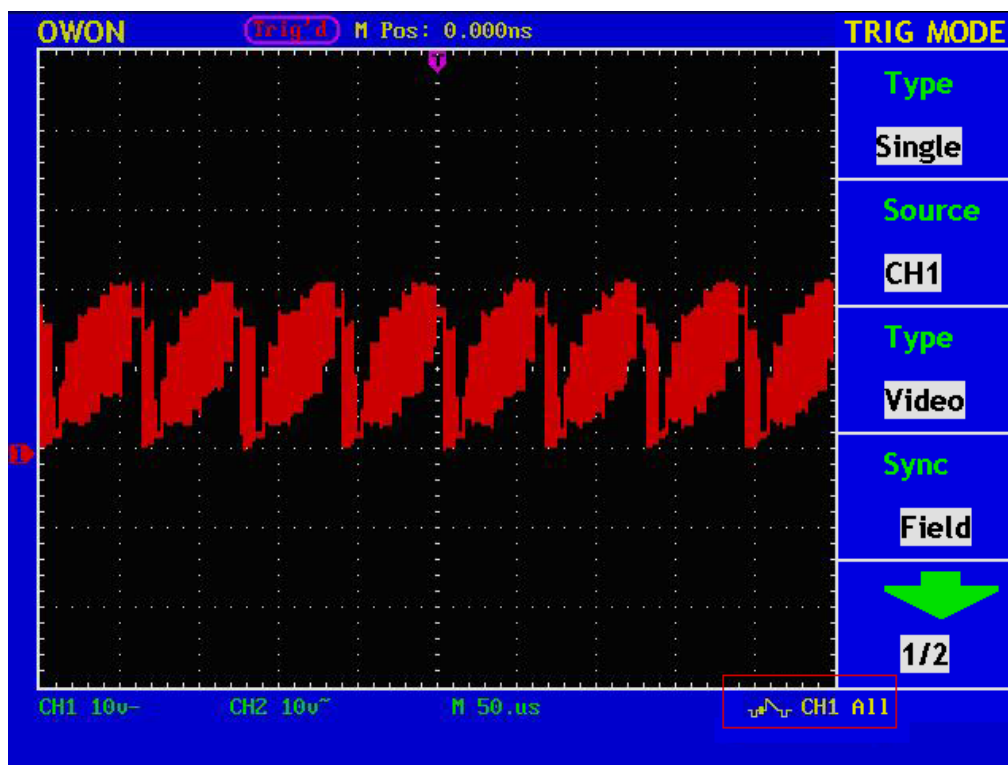

Fig.39 Wave Form Triggered in the Video Line
7. Press the F4 menu selection button again and choose Line for Slope. The screen display is shown as Fig.39.